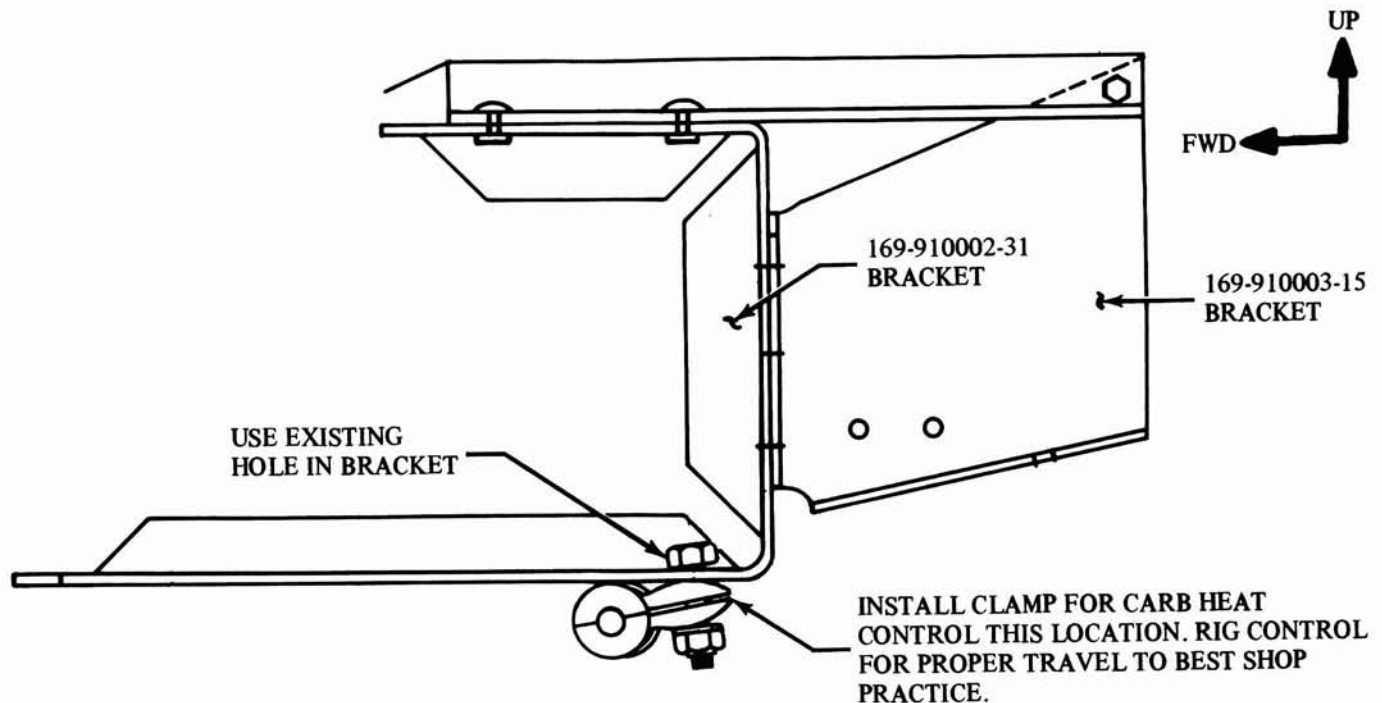

Figure 2. Looking from Left to Right in Engine Compartment
13. Remove the carburetor heat control housing clamp from the upper rear corner of the bracket and reinstall at the existing hole in the aft end of the bottom flange of the bracket as indicated in Figure 2.